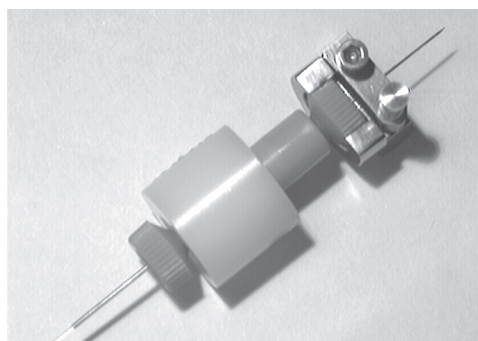

Figure 24
9. Remove the gauge plug. Into the other end of the fitting, insert the transfer line with appropriate sleeve and fitting (Figure 24). The sleeve and fitting had been previously threaded through the ESI manifold on the ADPT-TLC/ADPT-TLD. Push the tubing flush with the distal end of the PicoTip® and tighten both fittings. You should now have a zero-dead volume connection. Over tightening can both damage the silica tubing and prevent the fittings from being reused.